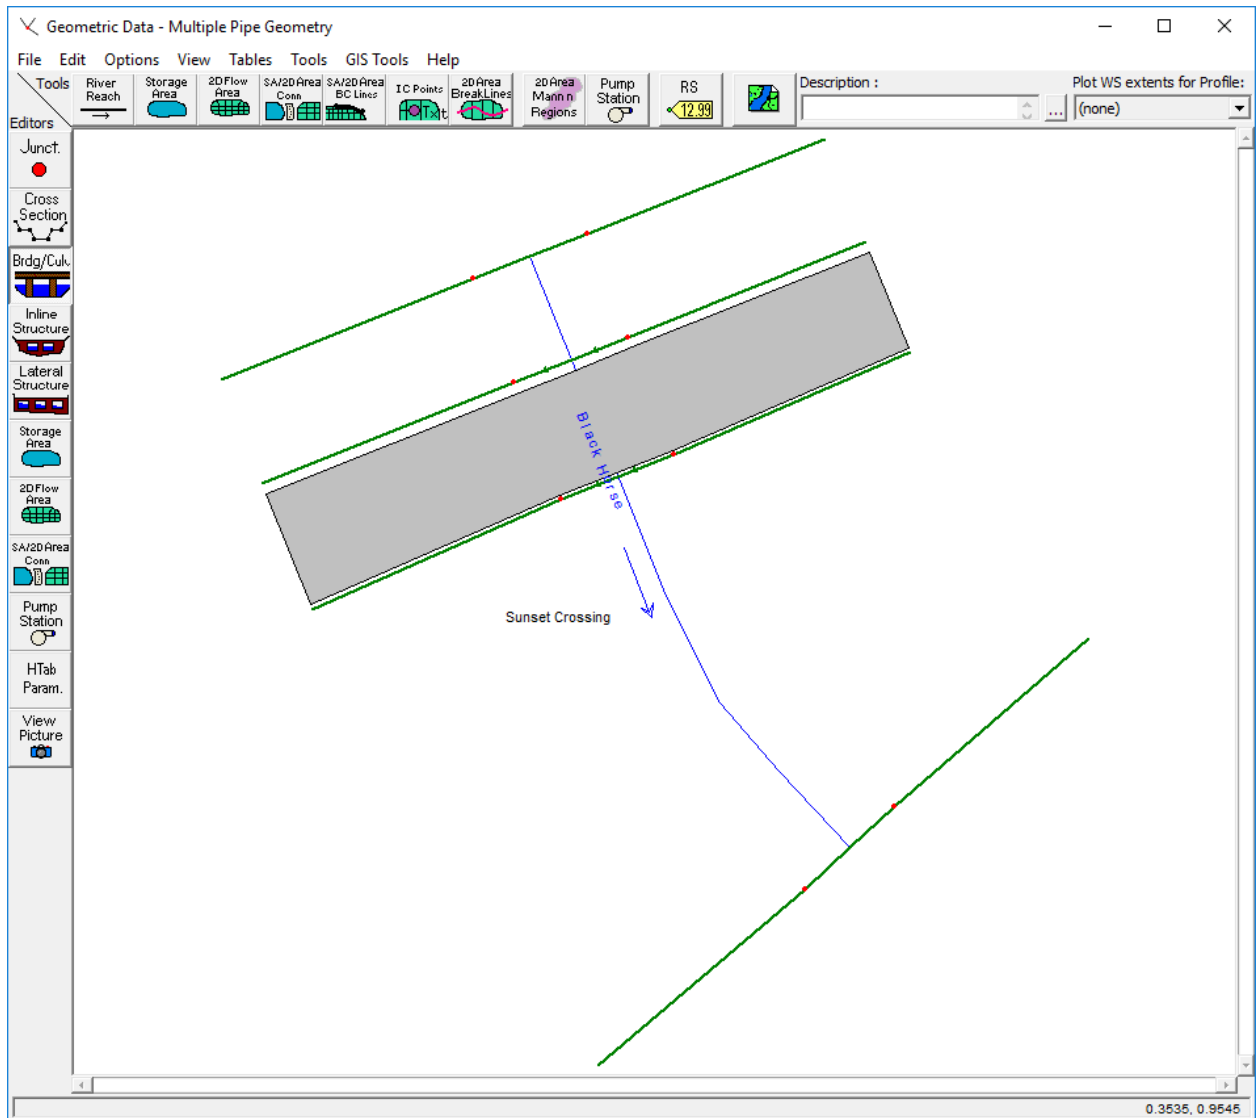

Figure 11. River System Schematic With Culvert Data
- E. The next step is to close the bridge/culvert data editor. This can be done by selecting the **Exit** option from the **File** menu of the editor. Once this option is selected, the editor will close and control will go back to the geometric data window. The schematic of the river system will be updated to include the culvert information. Figure 11 shows the new river system schematic with the culvert data entered.